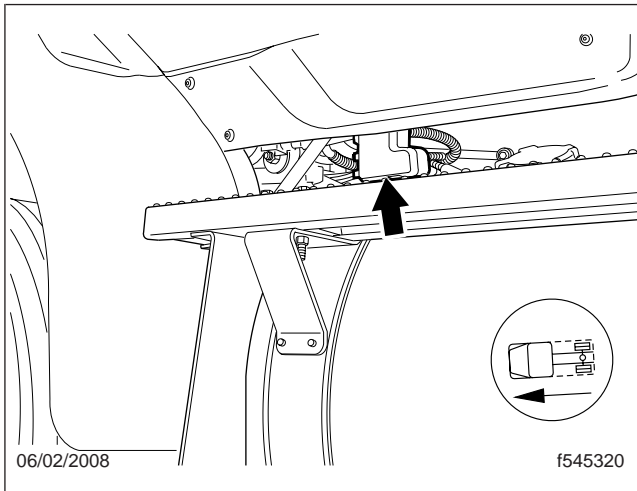

Fig. 2, Location of MEGA Fuses (typical)
3. Find the Mega Fuse Junction Block. See Fig. 2.